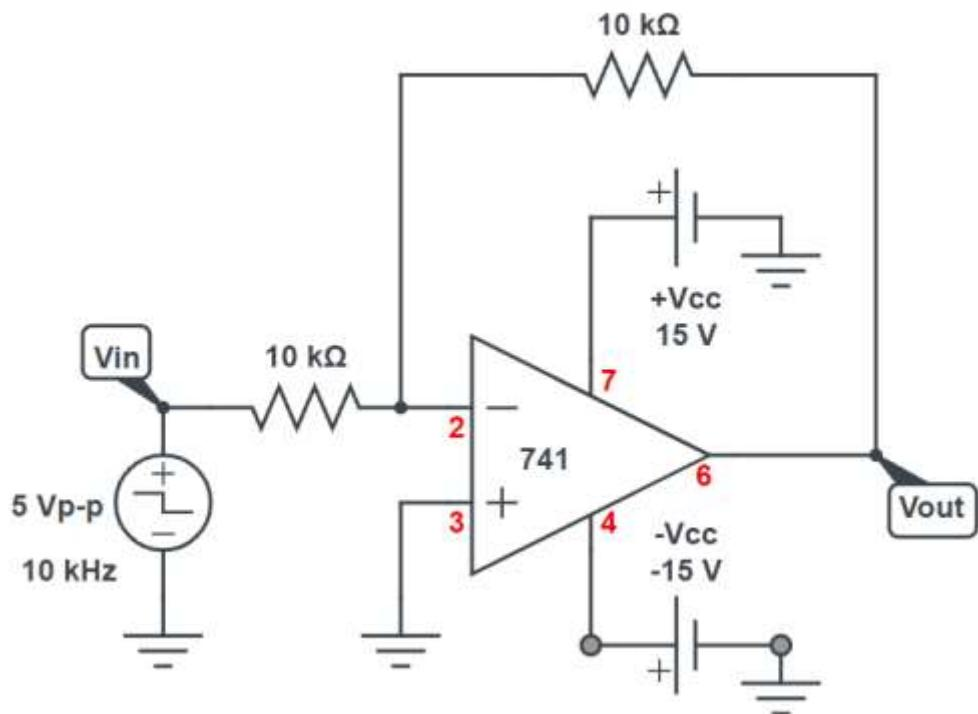

FIGURE 12.1-1: Schematic Diagram of Op-Amp Circuit
Using PSpice, simulate the circuits in Figures 12.1-1 and 12.2-1. Using the *USEFUL FORMULAS*, calculate the slew rate and observe the phase relationship between the input and output waveforms of the circuit in Figure 12.1-1. With the circuit in Figure 12.2-1, observe the phase relationship between the input and output waveforms, and calculate the common-mode voltage gain, differential amplifier gain, and common-mode rejection ratio using Useful Formulas at the end of this lab manual.
- 1) Wire the circuit depicted in Figure 12.1-1, and set your oscilloscope to the following approximate settings:
- 1) The Maximum time rate of change of output voltage of the circuit in Figure 12.1-1 in response to a step input is termed as _____ and its units are expressed in terms of _____.